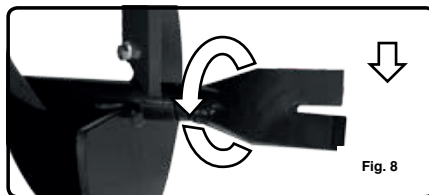

Fig. 8
6. Replace with new part (see Figure 8).